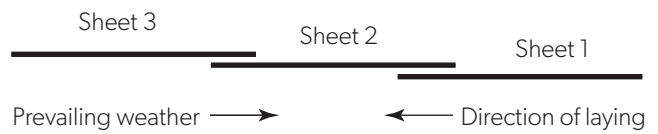

Figure 9.1.8
2. Position the first clips on each support by placing onto the support nearest the roof edge. (Figure 9.1.8).